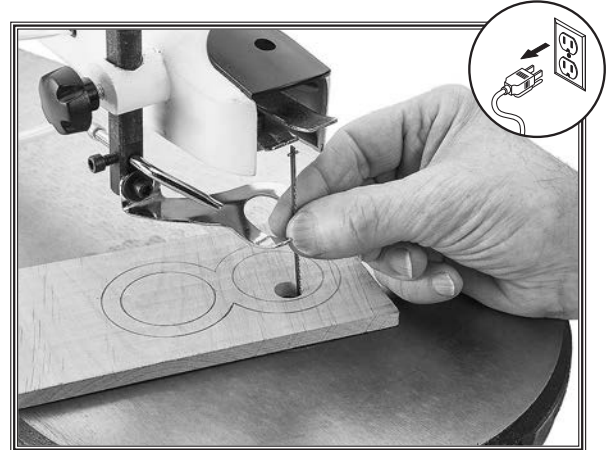

Figure 22. Example of installing blade for an inside cut.
4. Insert blade through previously drilled hole in workpiece (see Figure 22).